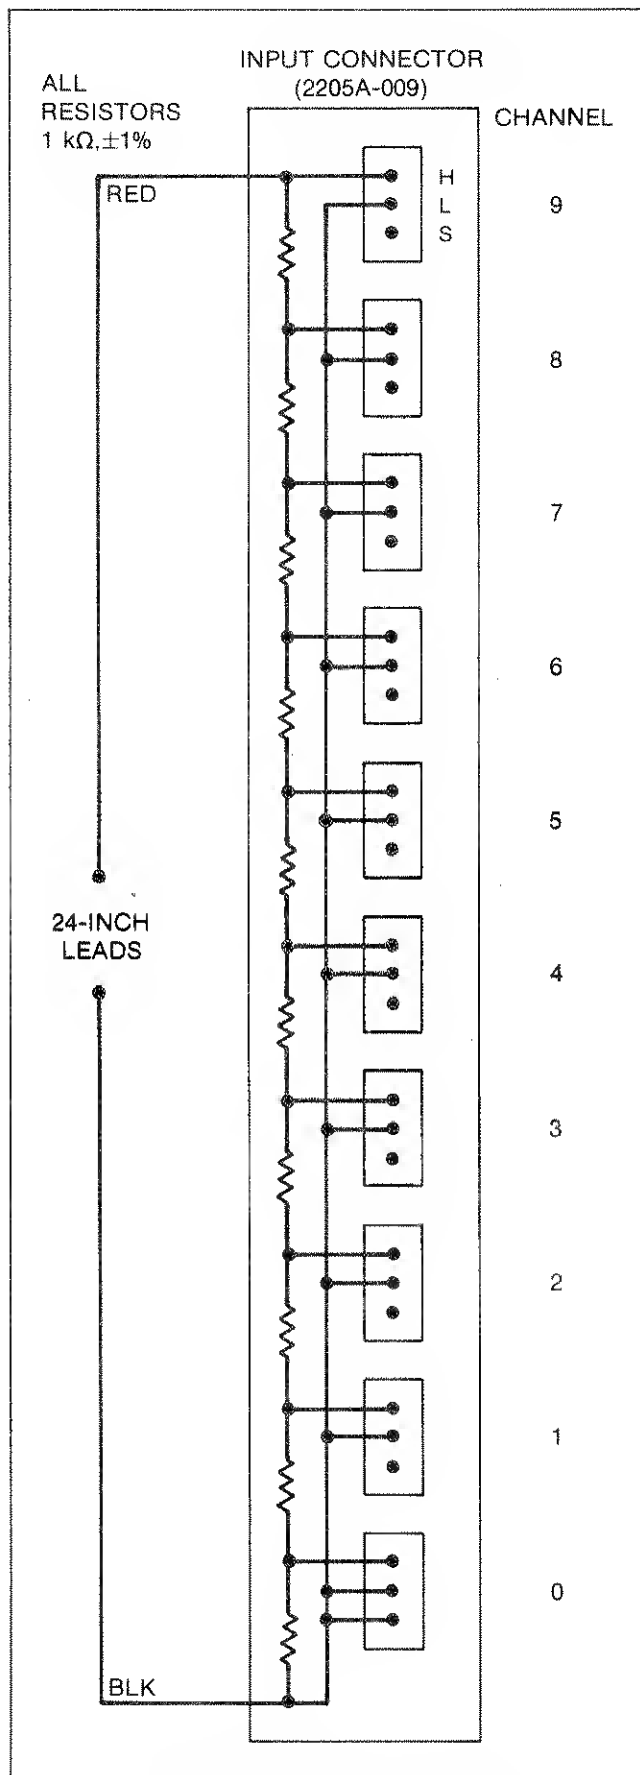

Figure 300-3. Scanner Test Cable
1. Fabricate a scanner test cable as shown in Figure 300-3, using the test equipment and resistors specified in Table 300-2.